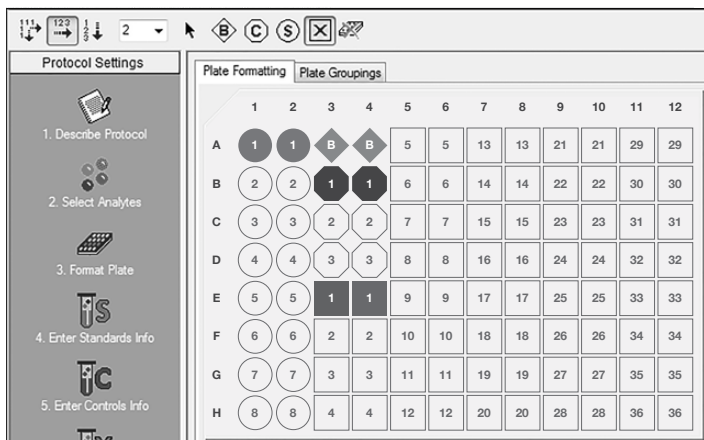

Fig. 4. Plate formatting.
3. Click **Format Plate** and format according to the plate template created in section 1 (Plan Plate Layout). To modify the plate layout, follow the steps below (see Figure 4).